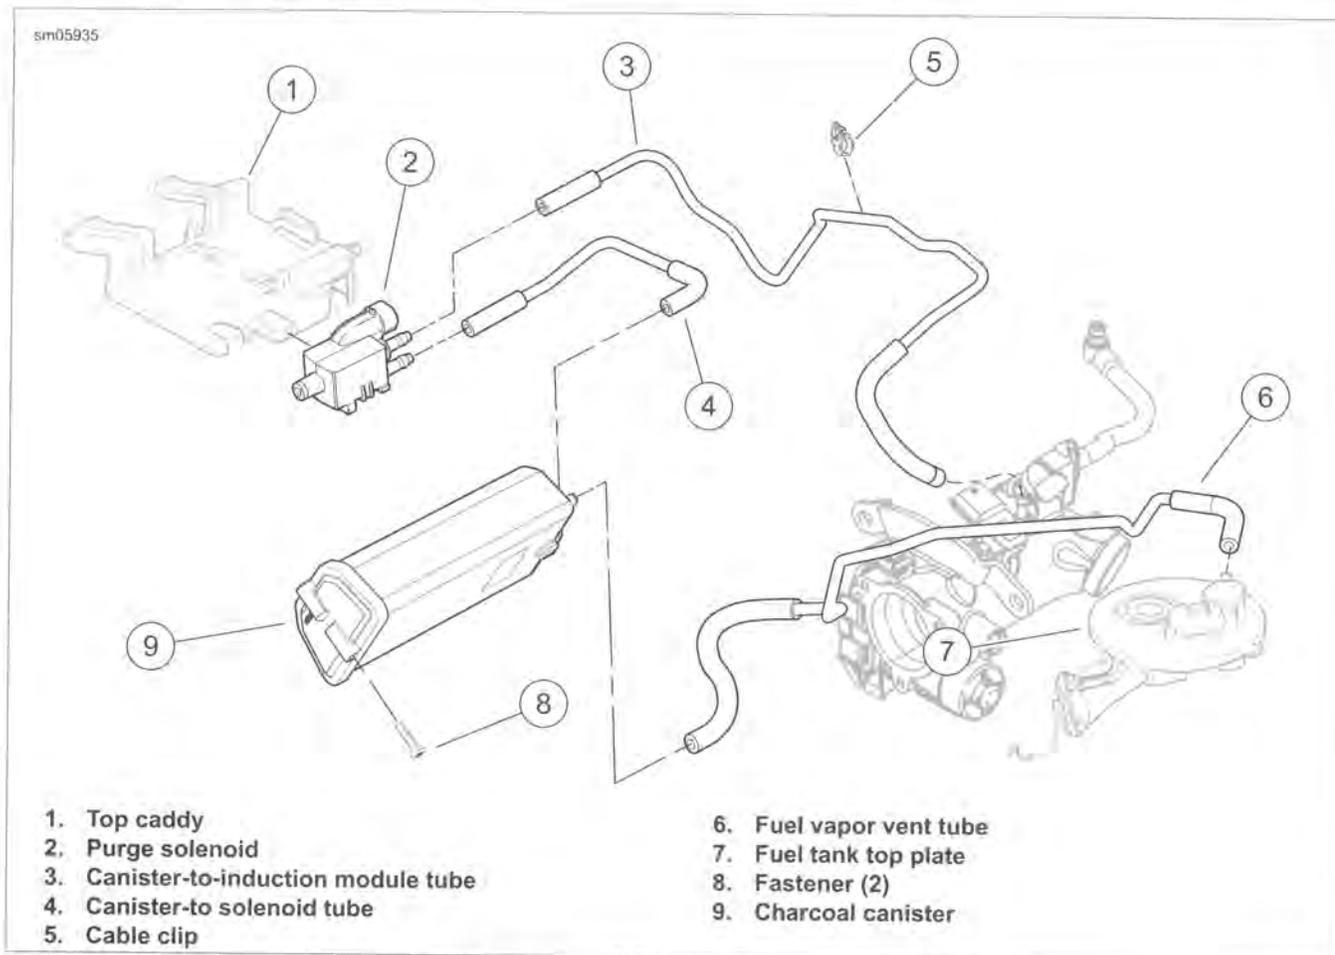

Figure 4-45. Evaporative Emissions Control System (EVAP)
Motorcycles sold in some markets are equipped with an evaporative (EVAP) emissions control system. See Figure 4-45. The EVAP system functions as follows:
3. See Figure 4-45. Remove fuel vapor vent tube (6) from vapor valve fitting on fuel tank top plate (7).
4. Disconnect vent tube from fitting on canister (9).
1. See Figure 4-45. Connect fuel vapor vent tube (6) onto vapor valve fitting of fuel tank top plate (7).
2. Connect vent tube to fitting on charcoal canister (9) marked "TANK".